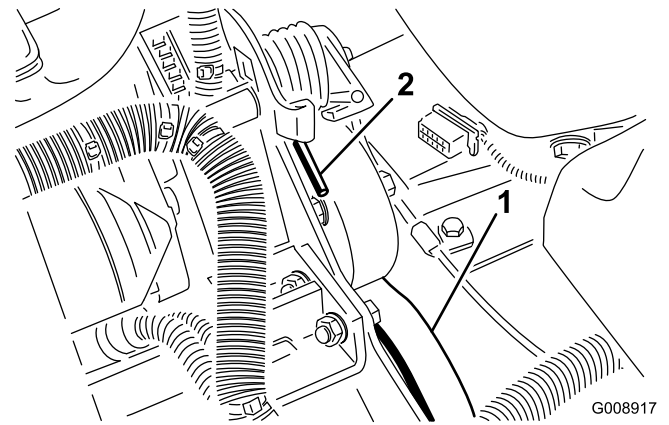

Figure 73
2. Push down and forward on the spring end (Figure 73) to unhook it from the bracket and release tension on the spring.